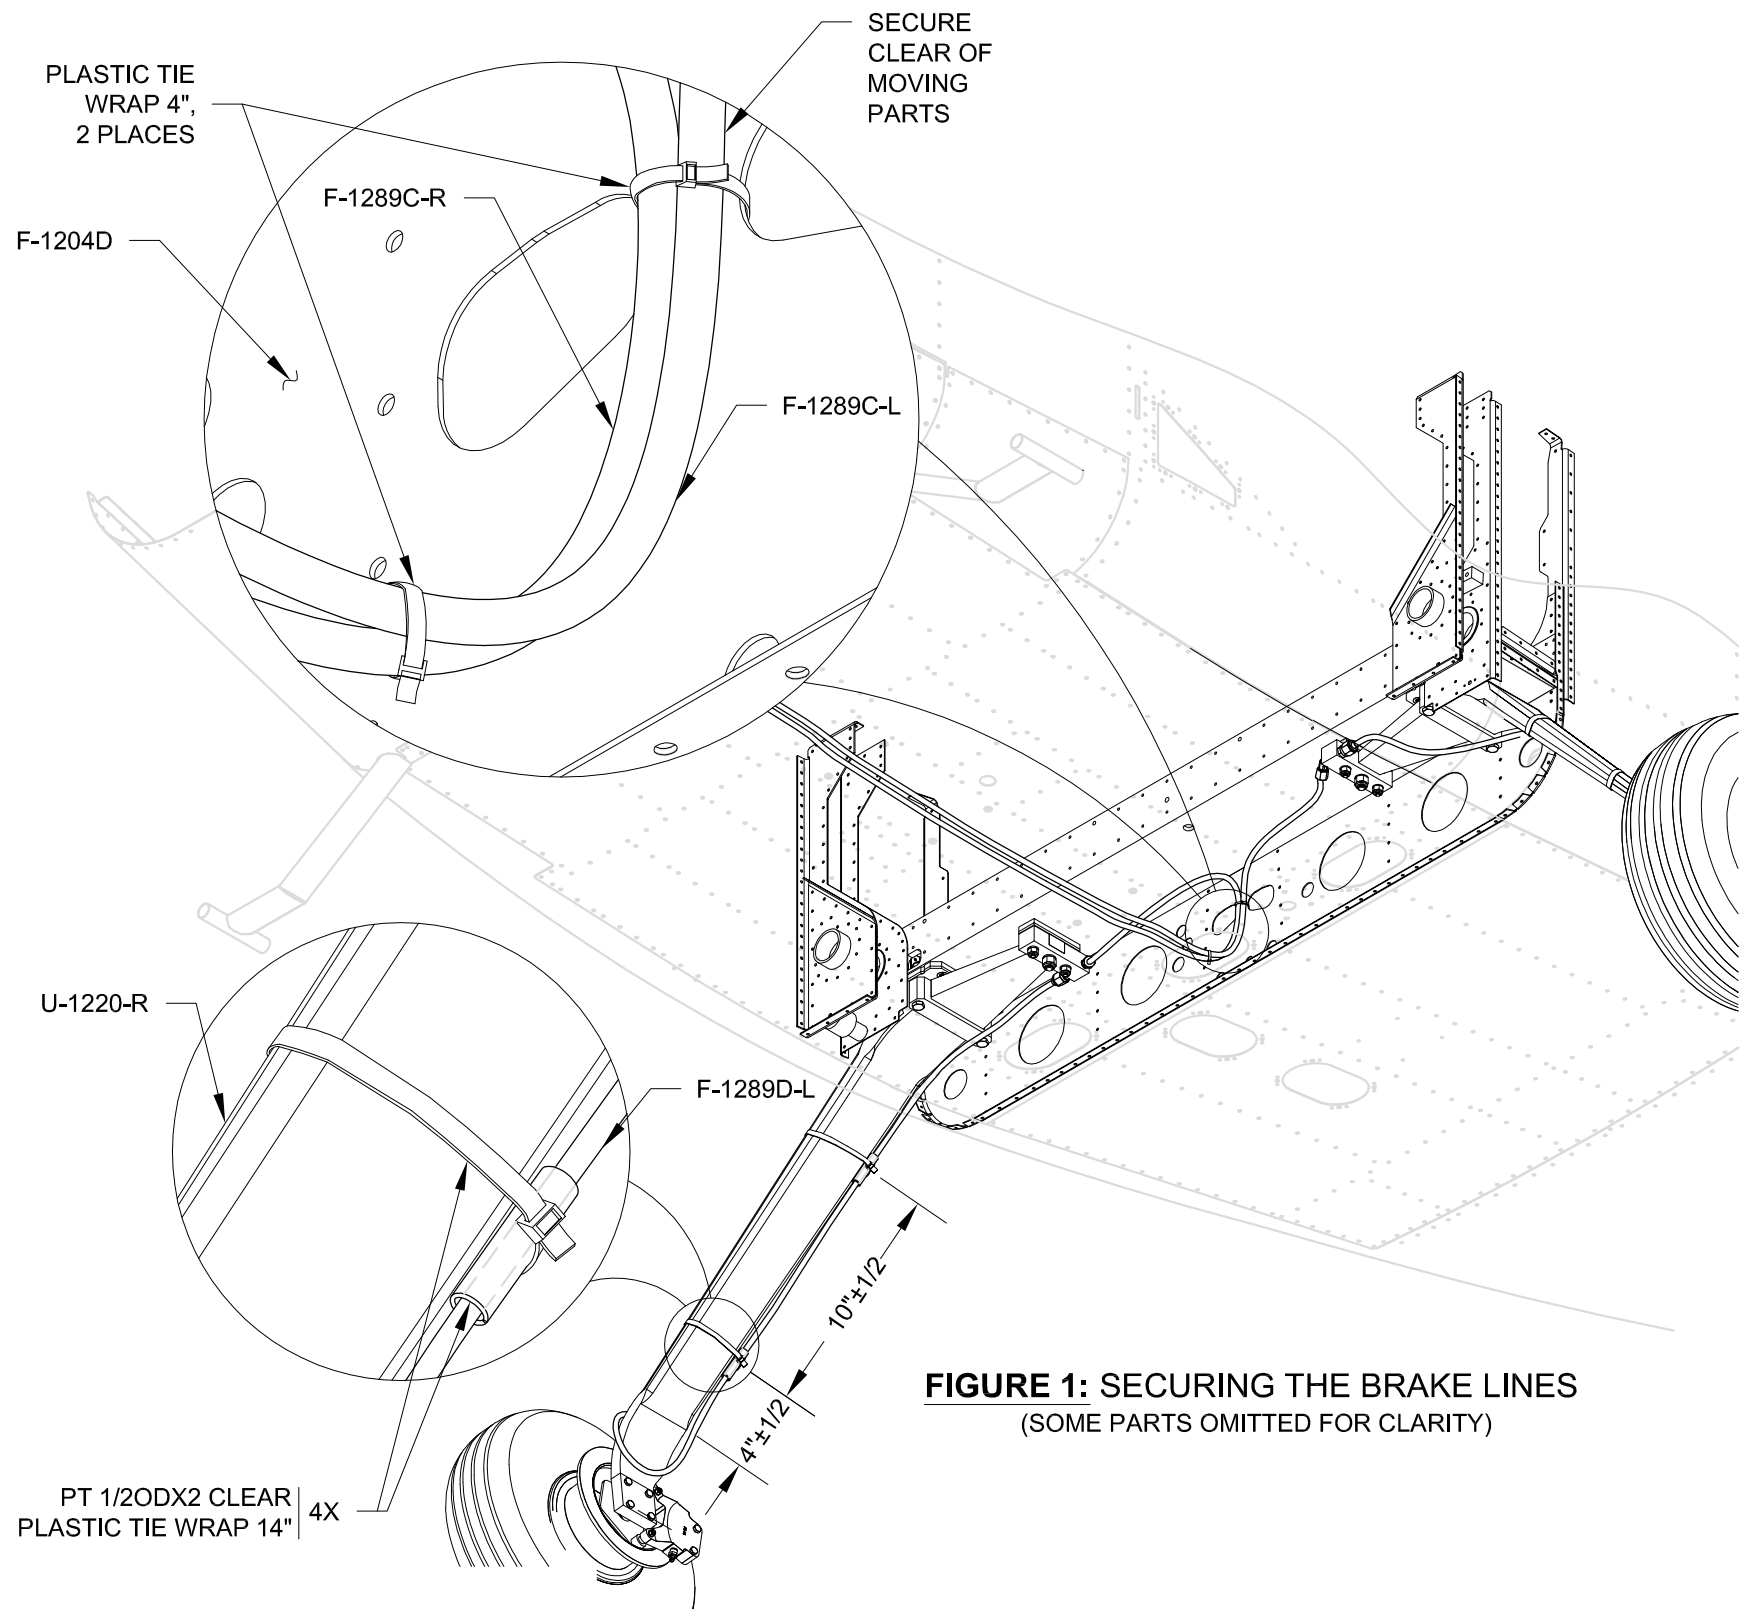

FIGURE 1: SECURING THE BRAKE LINES
Step 2: Make a slit in one side of the provided PT 1/2ODX2 CLEAR tubing. Slip the pieces of tubing around the F-1289D-L and F-1289D-R Caliper Brake Lines and secure the tubing pieces and caliper brake lines with the provided wire ties as shown in Figure 1.